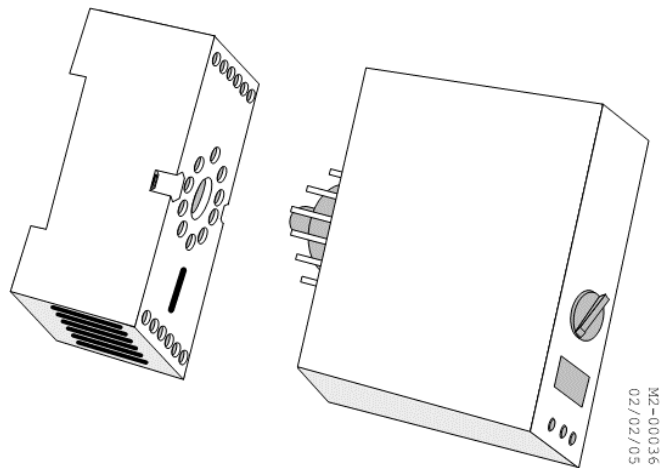

Figure 4-6: 11 Pin Socket for Photo Eye Amplifier
5. Plug the photo eye amplifier into the 11-pin socket. See Figure 4-6.